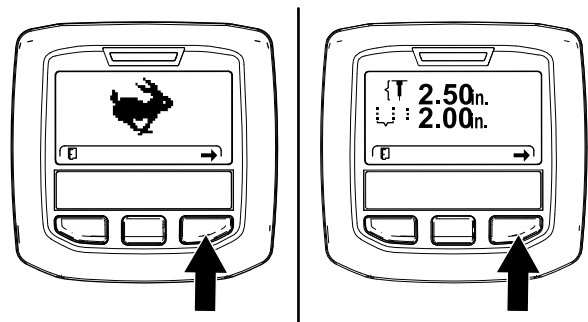
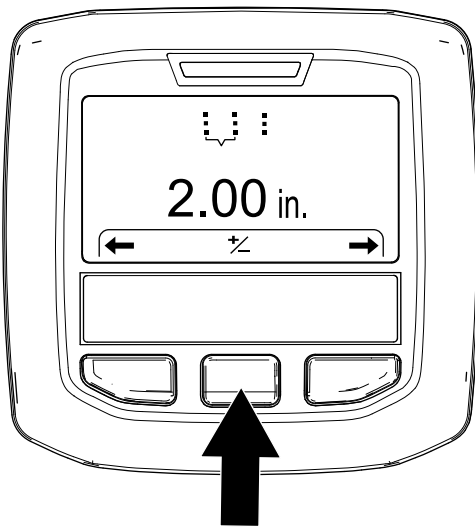

Figure 54
Figure 55
3. Press the right InfoCenter button until the Setting the Hole Spacing screen displays (Figure 54 and Figure 55).